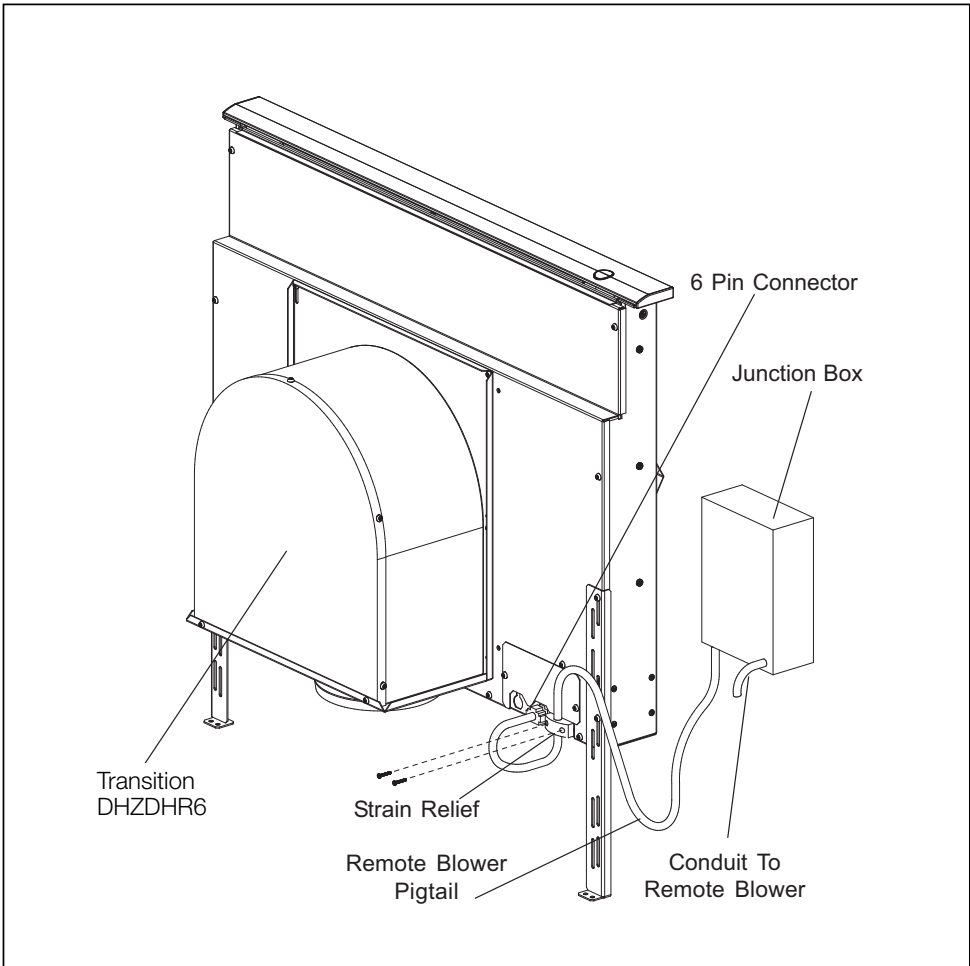

Fig. 11 – Remote Blower
**Remote Blower** (see Figures 11 and 12 for further detail):